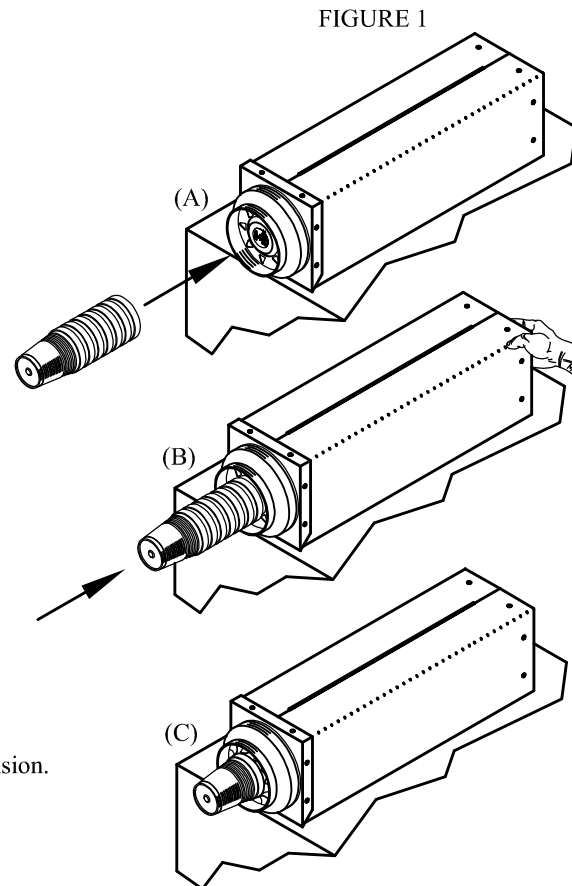

FIGURE 1
2. Visually align cups with center of gasket and pusher. (See Figure 1)
3. With one hand holding the back of the cabinet dispenser, push cups firmly into gasket until cups penetrate inside unit. (See Figure 1)